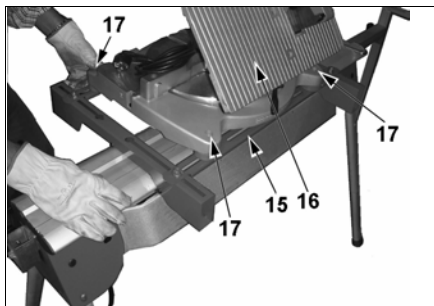

Fig. 14
- Then place the relative tool (16) on the support bars (as an example figure 14 shows a cutting tool being positioned).
- Make sure the holes on the feet (17) of the tool are perfectly aligned with the slots on the support bars (15). Should this not be the case, correct the position of the bars (15).
- Once positioned correctly, insert the relative fixing elements in the holes on the tool's feet (17).